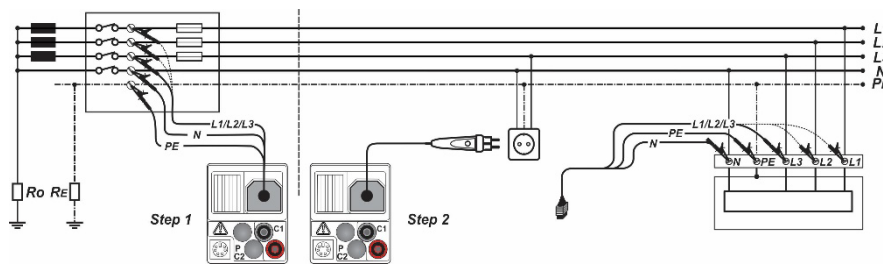

Figure 5.30: Connection of the optional "Commander" test plug (044149) and the three-wire test cable - Figure using the IT 130 as an example
- Connect the test cables to the test object (see figure 5.30).